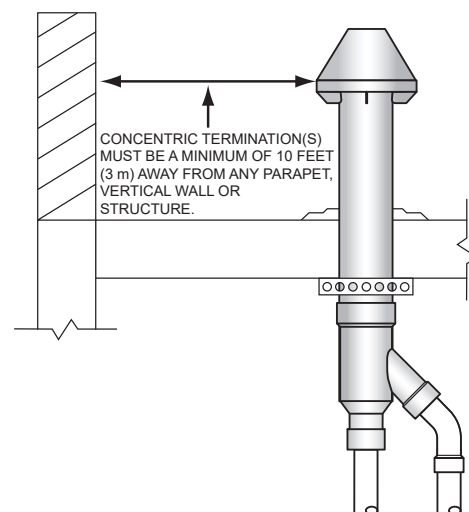

Figure 34. Concentric Termination - Flat Roof Clearance
When installing a concentric termination vertically through a flat roof, the termination's vent cap must be a minimum of 10 feet (3 m) away from any parapet, vertical wall or structure as shown in **Figure 34**.
- C. Secure assembly to structure as shown in **Figure 34** or **Figure 34** using field-supplied metal strapping or equivalent support material.